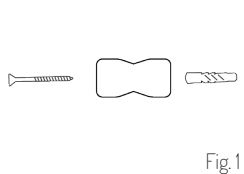

Fig.1
2. First remove the grub screws from the underside of the MILO using the Allen key in order to also remove the sleeves. Now screw the sleeves to the wall with the screws. (Fig. 1)